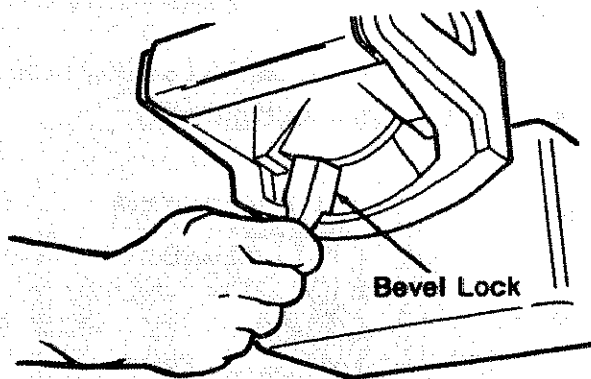

Fig. 68
11. Push the *bevel lock* to the left as far as it will go. (Figure 68)